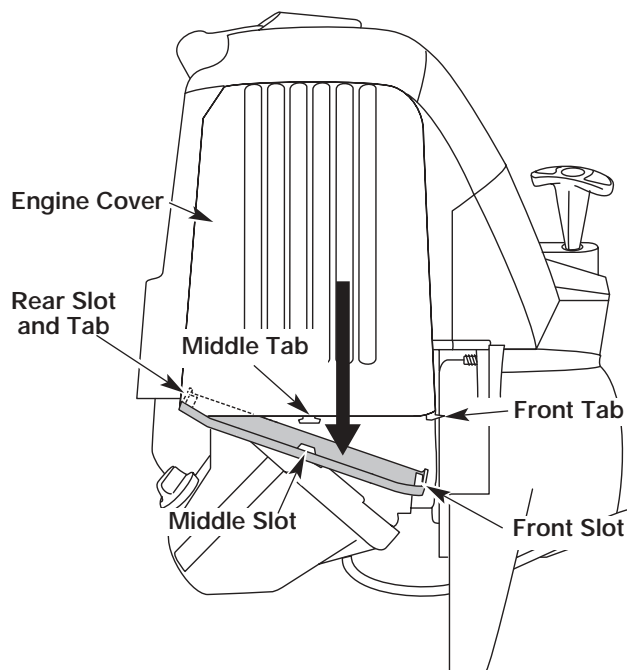

Figure 50
1. Remove the muffler cover by pressing down on it, separating it from the engine cover. Using a flat blade screwdriver, disengage the middle and front tabs and slots first. The cover will hinge off from the rear tab. See Figure 50.
- Reinstall the muffler cover. Slip the rear tab on the muffler cover into the engine cover rear slot. Then slide the remaining slots into the tabs until they snap into place. See Figure 50.